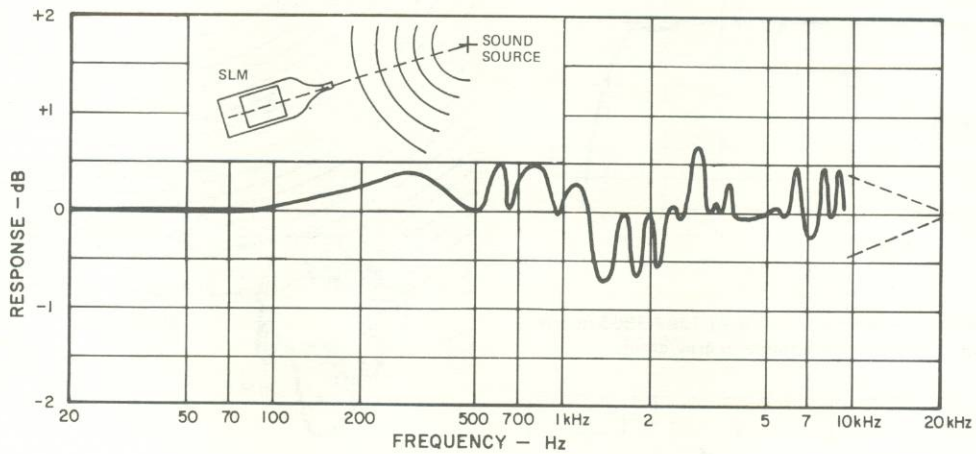

Figure 3-15. Surface-mounted random-incidence microphone orientation that provides uniform response to a uni-directional sound source.
*Surface-Mounted Measurement (Figure 3-15):*